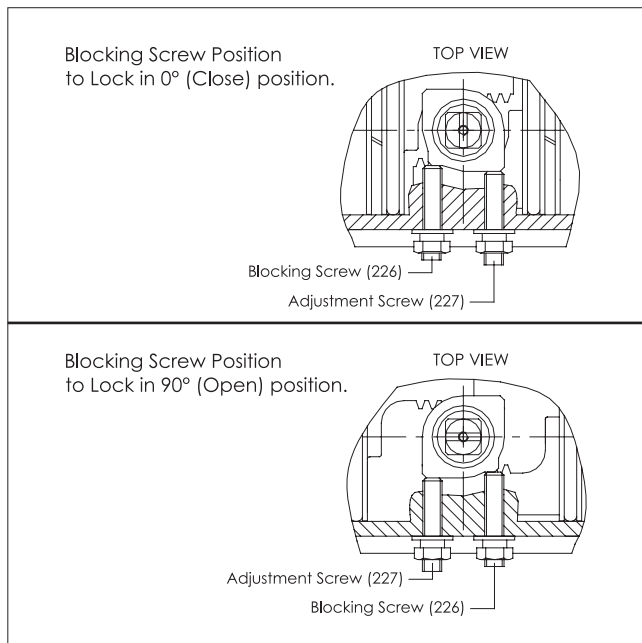

Figure 21.
- B. Insert on the Adjustment Screw (227) and on the Blocking Screw (226) the Special Nut (228), the Washer (03) and the O-ring (11), see (Figure 21).
- A. Before proceeding with the assembly of the Adjustment and Blocking Screws in the body, check the requested stop position. If the stop position is fully close (0°) or fully open (90°), Figure 21. Attention: when the screws are fitted, the actuator position must be  $0^\circ \pm 2^\circ$  or  $90^\circ \pm 2^\circ$ .
- B. Insert the Blocking Screw (226) and the Adjustment Screw (227) into the Actuator Body until the desired lock position is achieved then tighten the Special Nut (228), see (Figure 21).